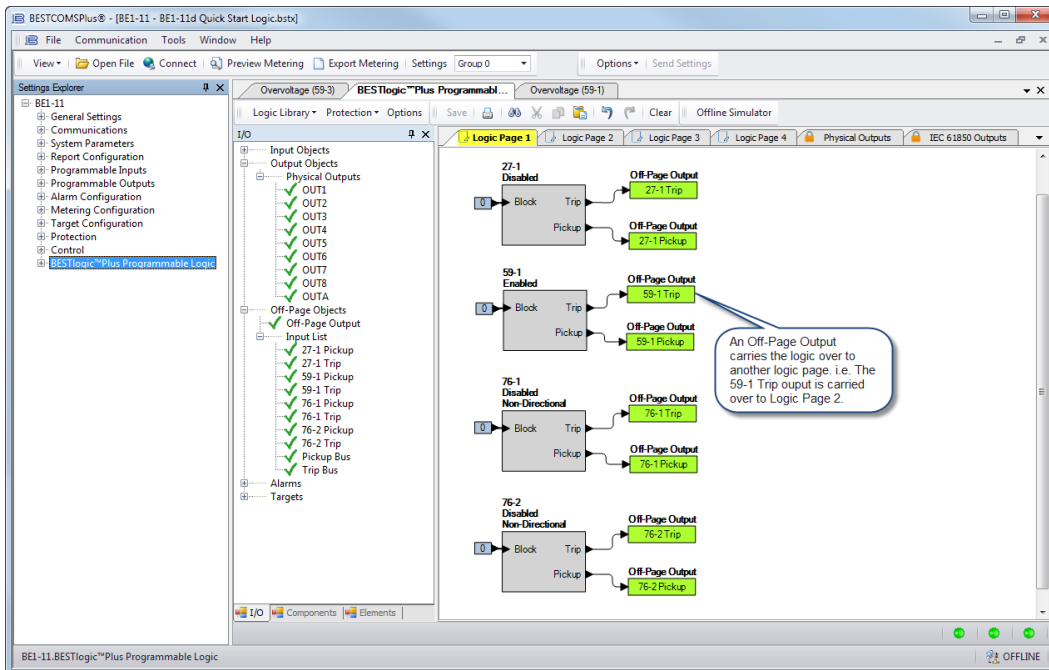

Figure 2-11. BESTlogicPlus Logic Page 1
- Step 7: In the Settings Explorer, click *BESTLogicPlus* Programmable Logic to open the logic diagram. Click the Logic Page 1 tab. See Figure 2-11. Examine the 59-1 element. The Logic 0 connected to the Block input indicates that the 59-1 element is never blocked.